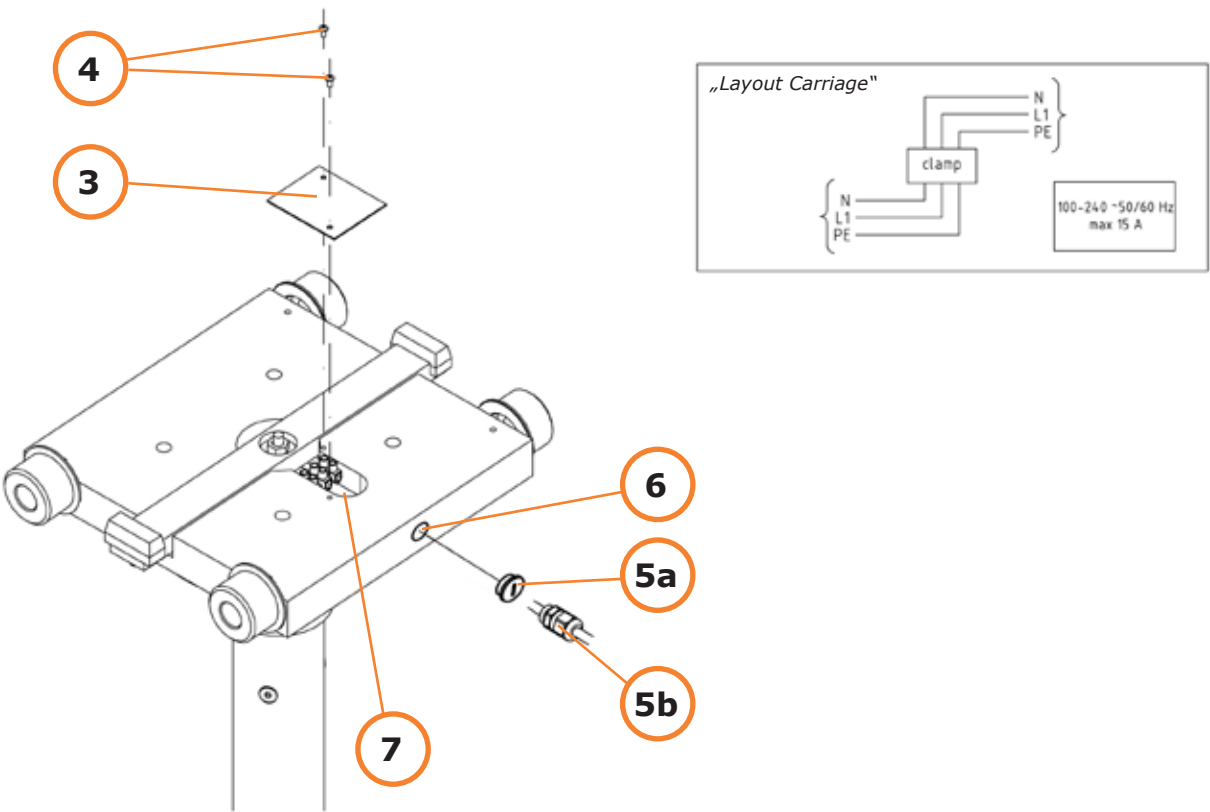

Fig. 5
- 4.2.2 Remove the small plastic plate (3/Fig. 5) on the top of the carriage by removing the screws (4/Fig. 5).
NOTE: Store the small plastic plate (3/Fig. 5) and the screws (4/Fig. 5) in a safe place, for later use.
- 4.2.3 Remove the plastic cap from the carriage (5a/Fig. 5) that points toward the cable spooler from the carriage using a screwdriver.
- 4.2.5 Push the cable through the hole (6/Fig. 5) that leads to the connection clamp on the carriage and complete the electrical connections according to „Layout Carriage“ (Fig. 5).
- 4.2.6 Secure the cable with the tension relief screwed into the carriage (7/Fig. 5).
- 4.2.8 Tighten the relief cap (5b/Fig.5) on the cable coming from the cable spooler to the carriage.
- 4.2.9 Mount the small plastic plate (3/Fig. 5) again to the top of the carriage using the screws (4/Fig. 5).